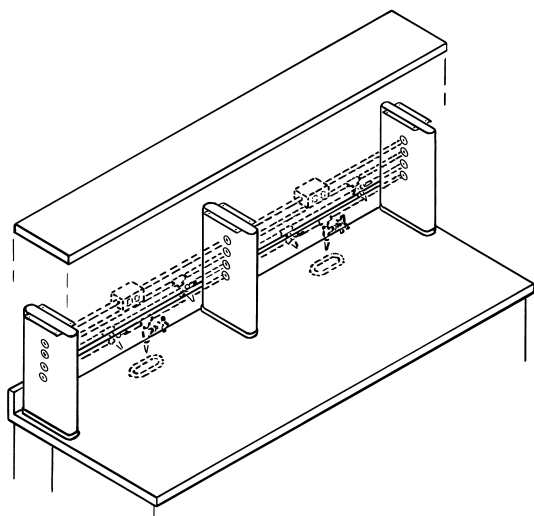
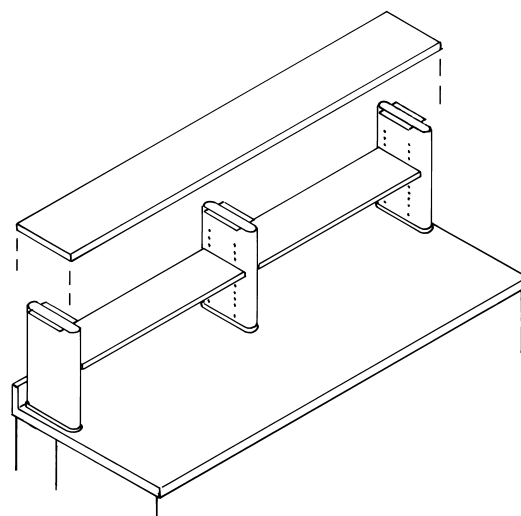

FIG. 33
FIG. 34
2. Mount W-0067-00 hold down angles and W-0068-00 channels on tabletop. For Kemrock or Kemresin tops, epoxy cement should be used for mounting these angles and channels. If tops are wood, holes will have to be drilled in the top for mounting (see Figures 33 and 34 for hole locations). Drill 3/4" deep holes with a No. 17 drill bit. Attach angles and channels to table top with 1/4" plate washers and #12 x 3/4" round head screws.
4. Figures 33 and 34 show two configurations of wall table reagent racks. Figure 33 illustrates uprights with service cutouts for pipes and conduit. Figure 34 illustrates intermediate adjustable shelving. Be certain that uprights are located correctly to accommodate the length of the adjustable shelves.